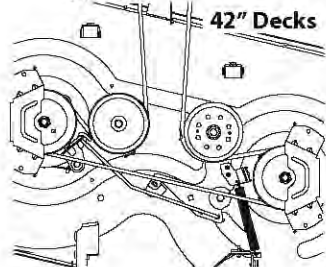
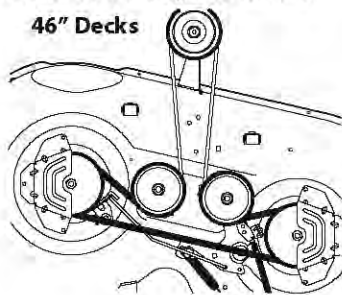
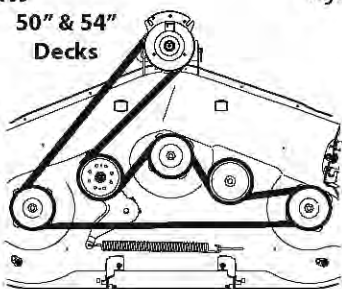

Figure 53
Figure 54
Figure 55
4. Route the new belt as shown in the applicable figure on the following pages. See Figure 53 for 42" decks, Figure 54 for 46" decks and Figure 55 for 50" & 54" decks.